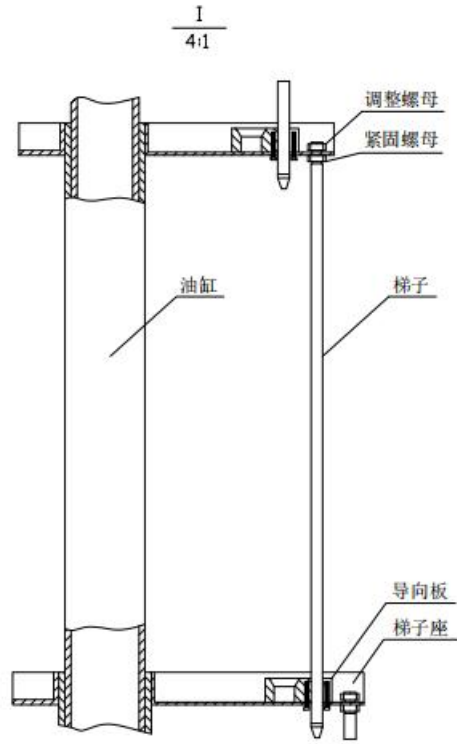

图3
4.2.8 The adjustment nuts and fastening nuts (see Figure 3) used for hanging ladders have been adjusted at the factory